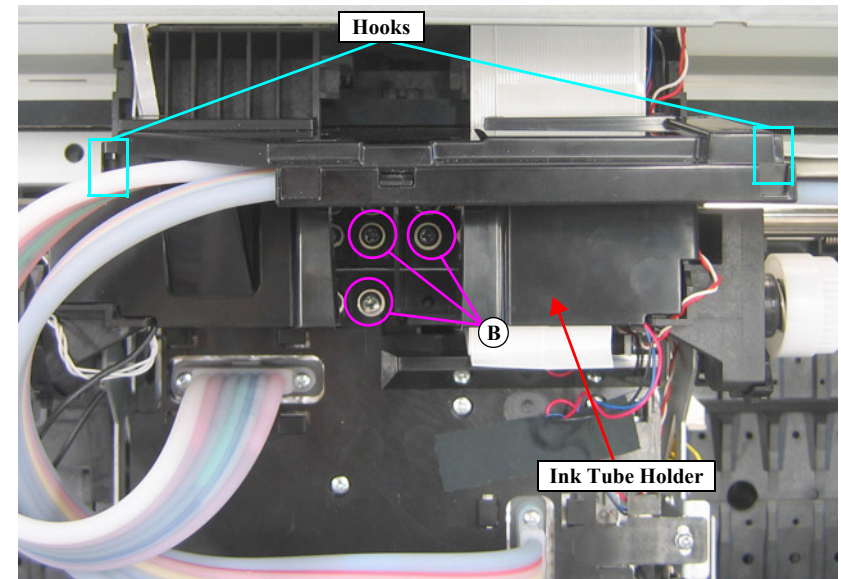

Figure 4-159. Removing the Ink Tube Holder
15. Remove the three screws that secure the Ink Tube Holder. *See Figure 4-159.*